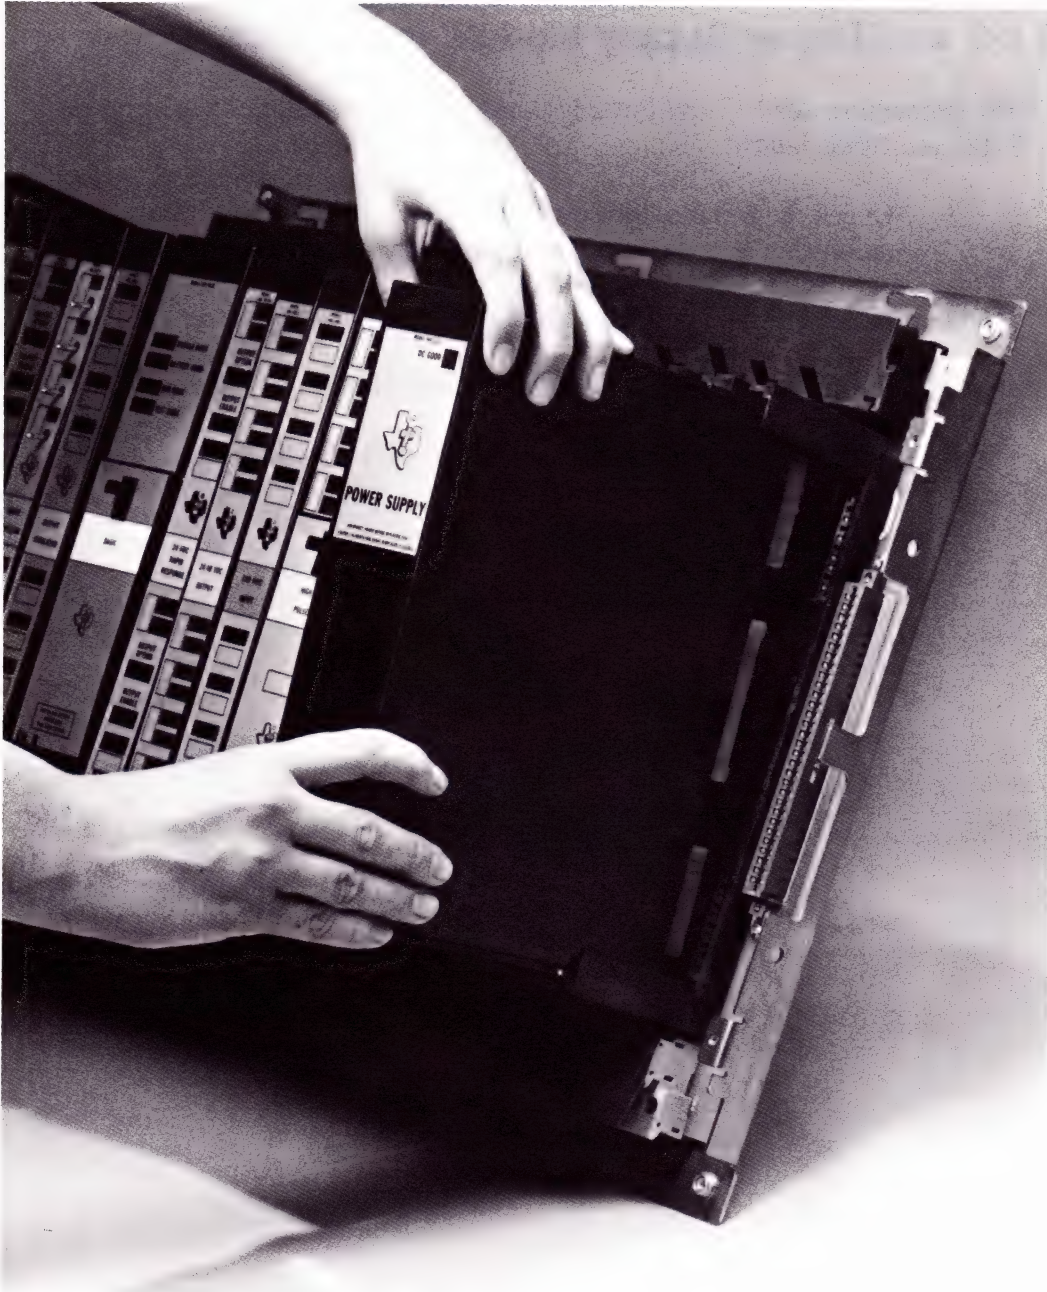

Figure 7-14 I/O-Power Supply Module Installation
8. Insert your Power Supply module (refer to the 110/220 VAC POWER SUPPLY MODULE INSTALLATION MANUAL, 500-8111). (See Figure 7-14)
The procedures for I/O and Power Supply module installation (see Figure 7-14) are listed below: